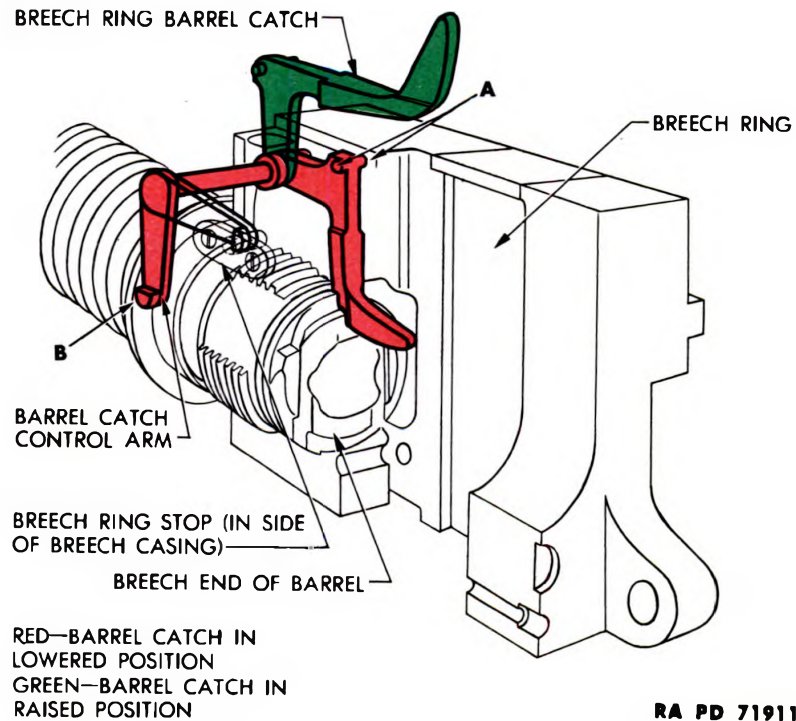

Figure 11 – Breech Ring Barrel Catch
(1) The breech ring barrel catch, when lowered, prevents the barrel assembly from rotating to a position where it could be removed from the breech ring. This catch (red in fig. 11) locks the barrel assembly in the breech ring by engaging a slot in the breech end of the tube. The pointed rear end of the catch guides the cartridge into the chamber.
(2) Two lugs (A, fig. 11) at the top rear of the catch ride in a groove in the top cover. When the top cover is opened, this action lifts the catch from its slot in the tube (green in fig. 11) and permits the tube to be rotated and removed from the breech ring.
(3) As the catch is raised, the barrel catch control arm is rotated
to a position where its toe (B, fig. 11) engages the breech ring stop. This locks the breech ring in the casing and prevents it from slipping to the rear when the barrel assembly is removed.